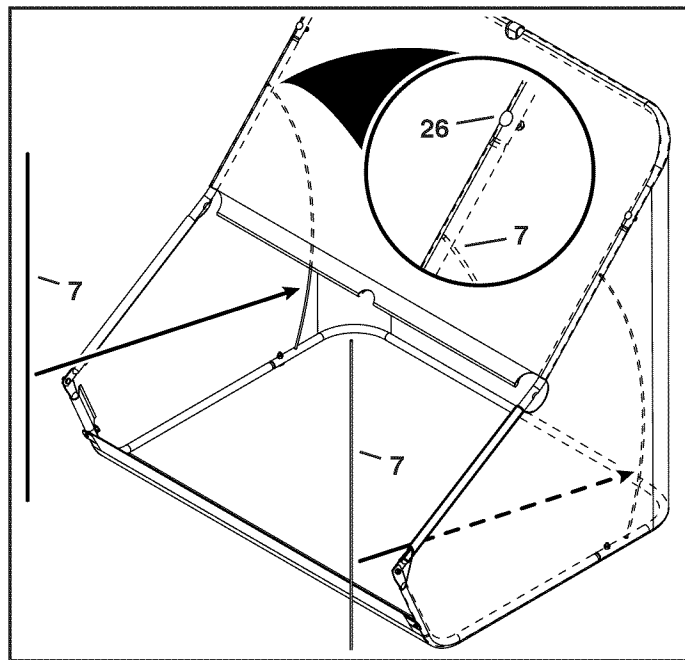

FIGURE 15
### STEP 15: (SEE FIGURE 15)
- Insert the hopper support rods (7) into the hole beneath the curved head bolt (26) in each upper hopper tube. Flex and insert the rod into the hole in the bottom rear hopper tubes as shown.
**NOTE:** The hopper support rods will flex about as much as shown in figure 15 when they are assembled.